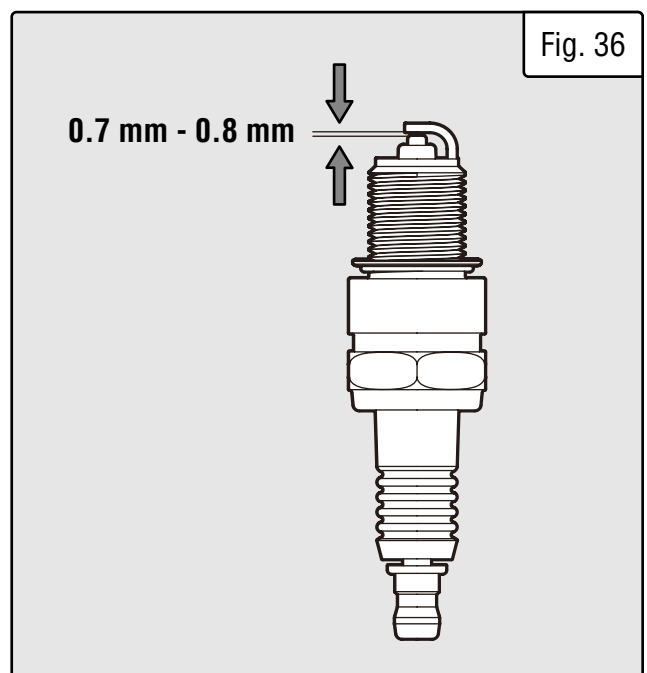

Fig. 36
6. Measure the plug gap with a spark plug gap gauge. The gap should be 0.7 - 0.8 mm (0.028 - 0.031 in) (Fig. 36). Carefully adjust the gap if necessary.